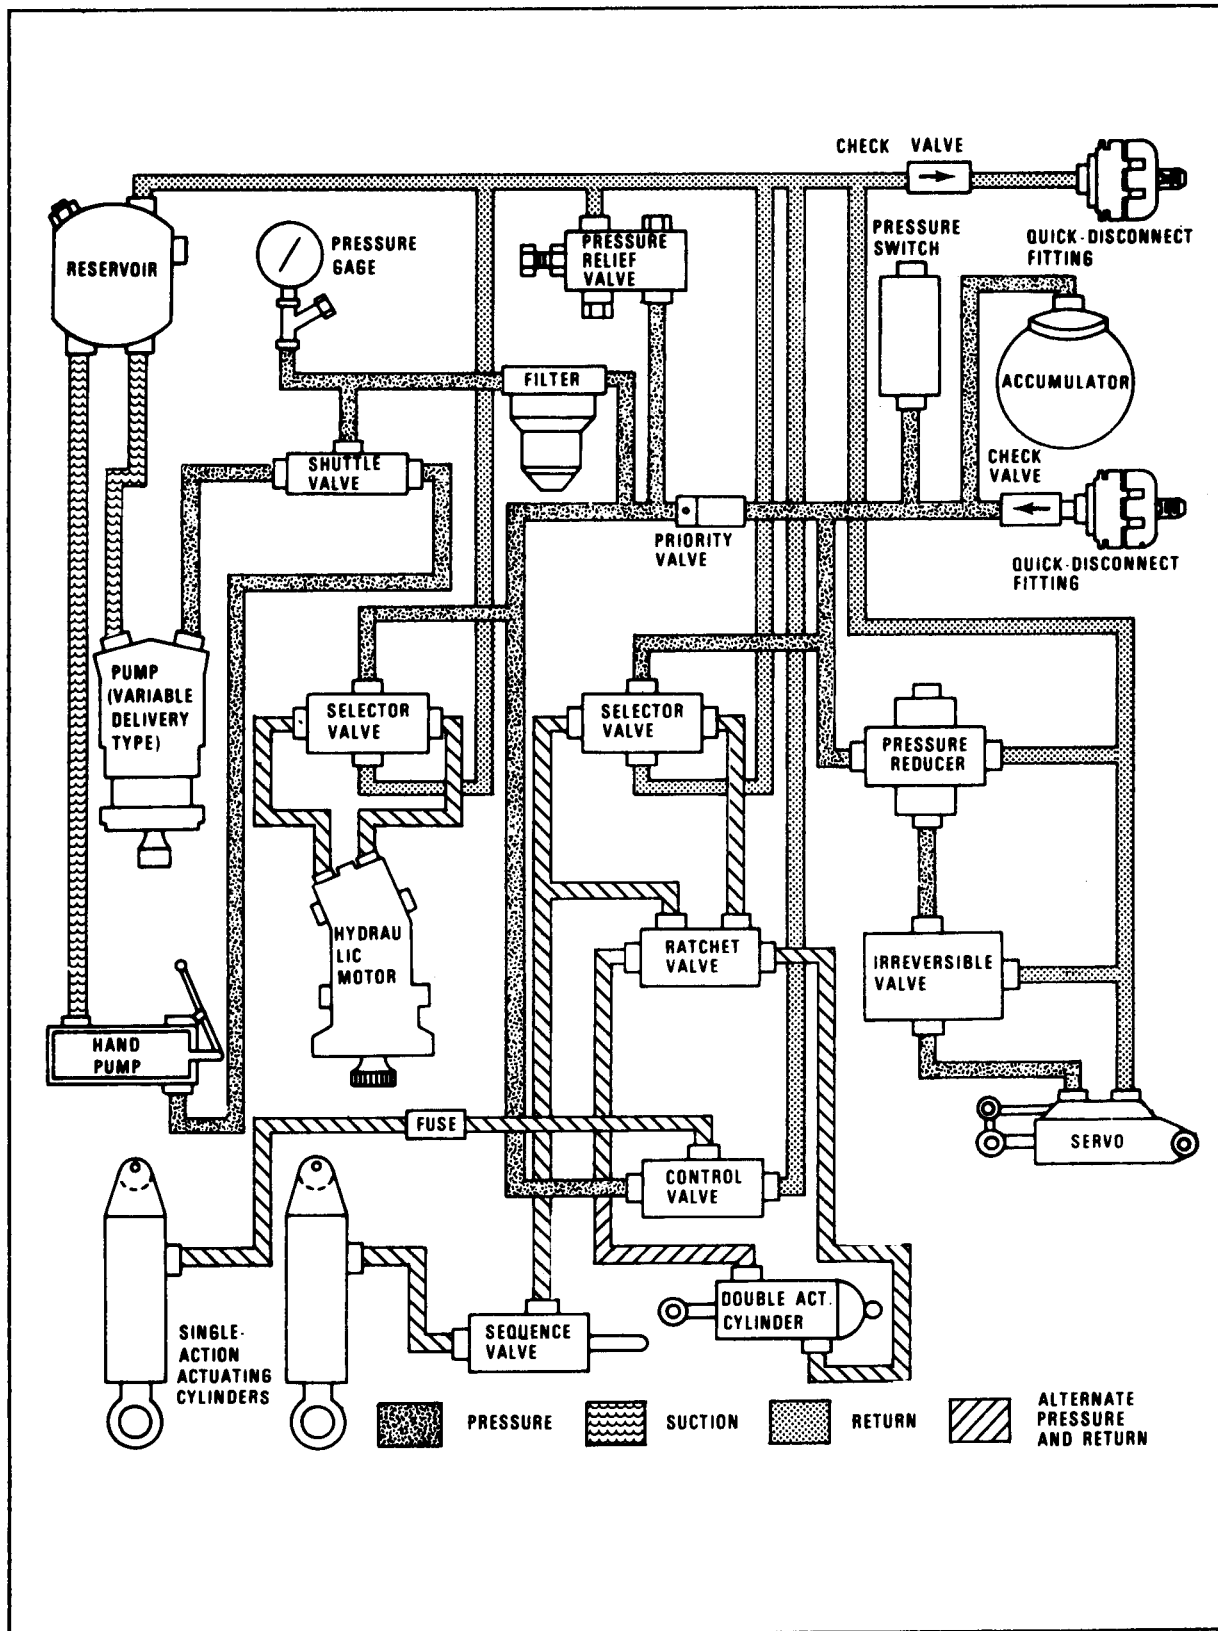

Figure 9-6. Complete closed-center hydraulic system.
**Complete System.** Figure 9-6 shows a closed-center hydraulic system with all of the components discussed in Chapters 4 through 8 of this manual. Note that fluid flows from the reservoir into the power-driven pump or hand pump. The pressure created by either pump moves the fluid through the shuttle valve and the system filter into the pressure lines. If the hand pump is operated instead of the power-driven pump, the shuttle valve blocks off the power-driven pump and pressure regulator from the pressure lines. A hydraulic pressure gage is installed in the pressure line to indicate system pressure. The system relief valve is interconnected between the pressure and return lines. From the pressure lines, any number of units or subsystems may be supplied with fluid under pressure. The control valves and selector valves are used to isolate and operate any unit or subsystem independently of other units or subsystems.